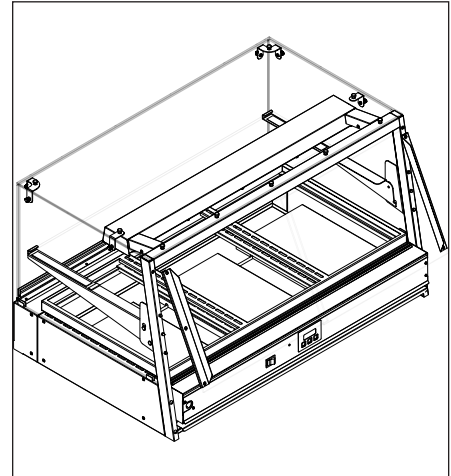

Figure 6. Halogen Bulb Replacement
6. Firmly grasp the sides of one glass door. Lift the door up and out of the bottom track (Figure 6). Repeat for the other door.